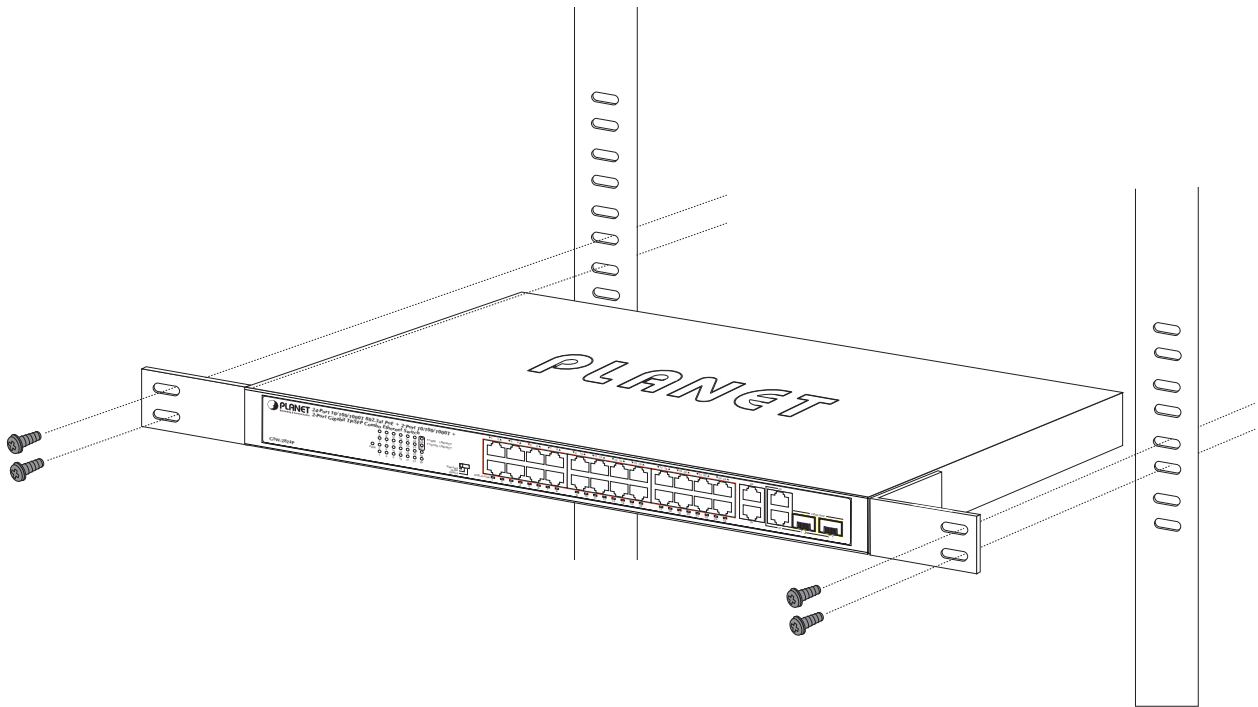

Figure 5-2: Mounting the 802.3at PoE+ Switch in a Rack
Step 5: After the brackets are attached to the 802.3at PoE+ Switch, use suitable screws to securely attach the brackets to the rack, as shown in Figure 5-2.